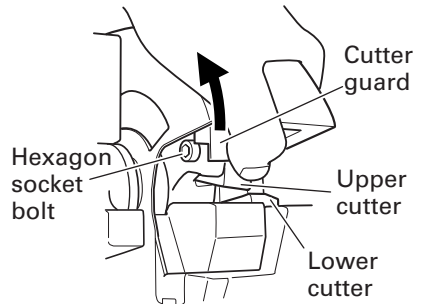

Fig. 10
(1) Pull the switch lightly and let the upper cutter move slowly. When the hexagon socket bolt that fixes the upper cutter comes out of the cam cover, turn the switch OFF and stop the motor.
(2) Unplug the power cord from the receptacle.
- If you remove the hexagon socket bolt using the provided Allen key, you can remove the cutter. (Pushing the cutter guard up in the direction of the arrow shown in Fig. 10, facilitates removal of the upper cutter.)